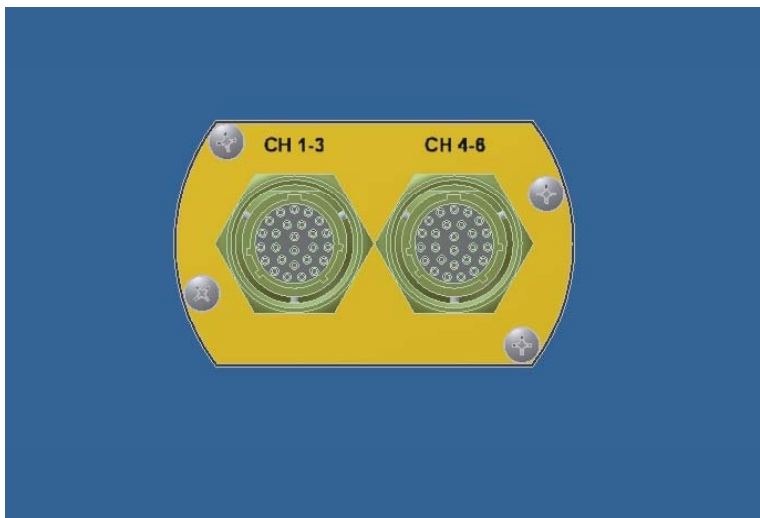

Figure 6-3 - Analog Input/Output Connectors
- a) Analog Input/Output - Two analog input connectors are provided on the SMART-24 Series instruments, for ADC channels 1-3 and 4-6, respectively. See Figure 6-3.